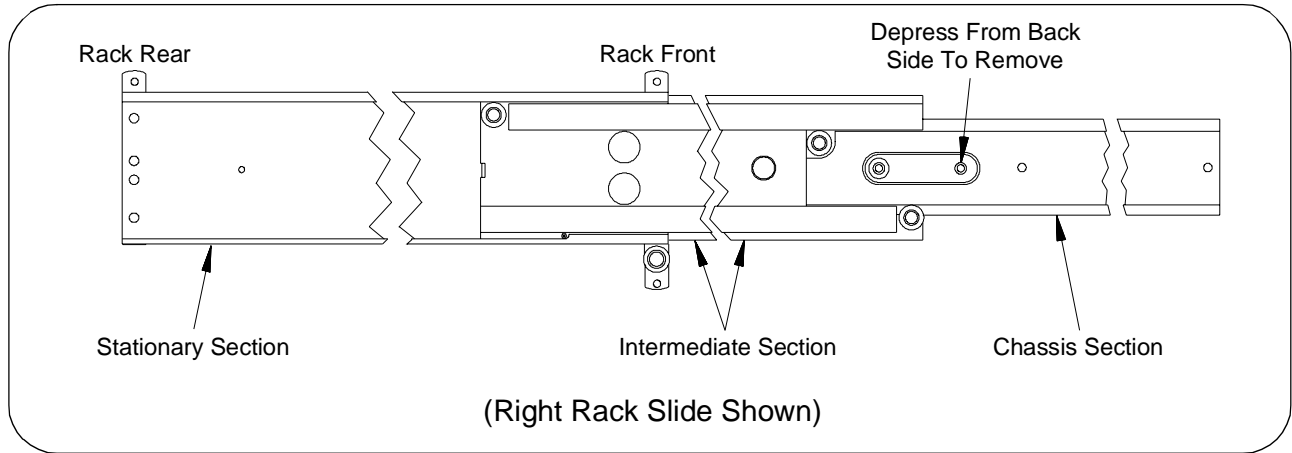

Figure 8 . Removing the Rack Slide Chassis Section from the Intermediate Section.
5. Remove the rack slide chassis section from the intermediate section (Figure 8). (The chassis section will be connected to the mainframe in Step 7.) Slide the intermediate section back into the stationary section.